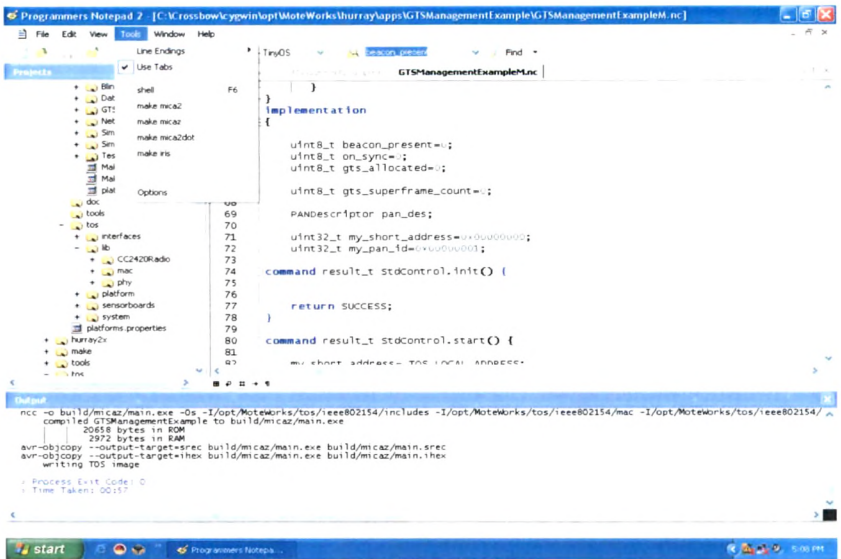

Figure A.12: Snapshot of Programming Notepad 2
2. Open a nesC file within an application directory. (eg. MyApp.nc), and click on Tools > make MICAz. It can also be executed in the shell commands by clicking on Tools > shell and then typing the command in the dialog box. The "Output" section of the Programmers Notepad will print the compiling results to the screen as shown in Figure A.12.